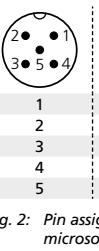

Fig. 2: Pin assignment with view onto sensor plug, IO-Link notation and colour coding of the microsonic connection cables
- Connect a connection cable to the M12 device plug, see Fig. 2.